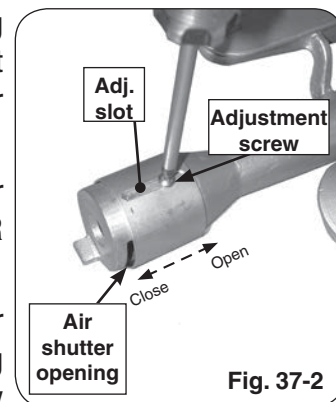

Fig. 37-2
3. Adjust the air shutter opening by loosening the adjustment screw with a screwdriver, then sliding the air shutter backward or forward to open or close the air shutter opening (see Fig. 37-2).